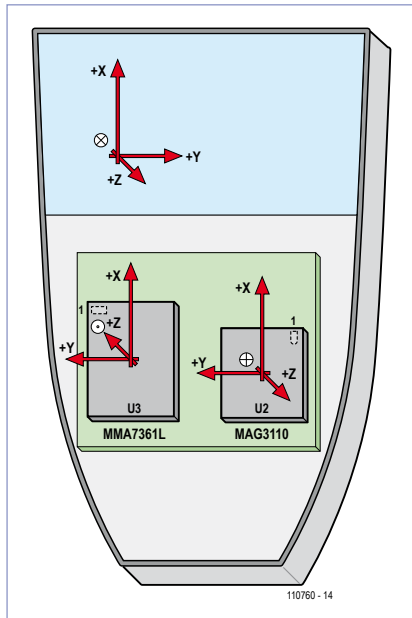

Figure 6. The rules for orientation of the axes must be transferred to the PCB and the detector it carries. A little bit of software takes care of the rest.
**Figure 6** shows the detector sensitivity axes and those of the device. It can be seen that the detectors have been oriented (turned) in such a way that their sensitivity X axes are in line (or paral-